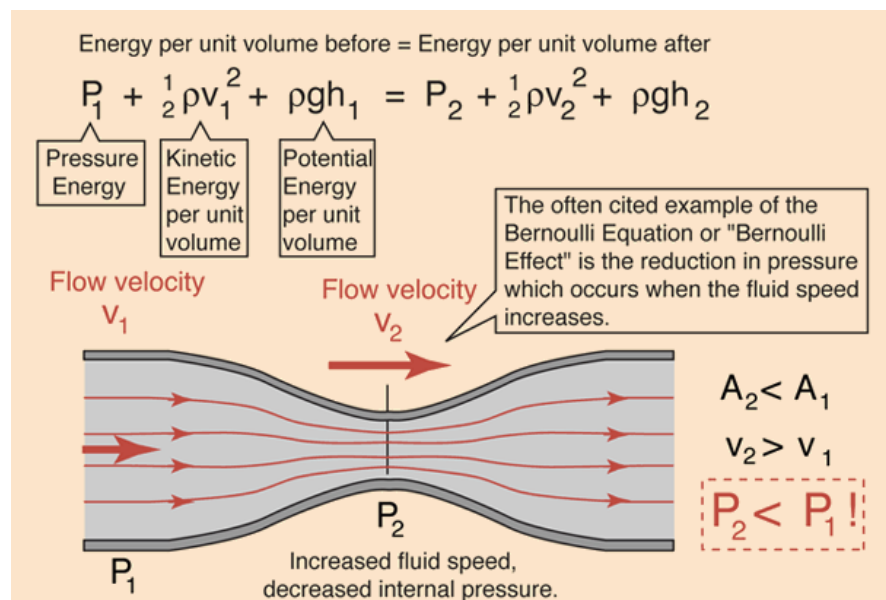

Figure 2: Hyperphysics image demonstrating conservation of Energy/Volume
Let's rewrite the conservation equation (see Figure 2):
23. Use the (potential energy)/(Volume) equation in Figure 2 ( $\frac{1}{2}\rho g\Delta h = \Delta PE$ ) to determine the change in potential energy during the draining.